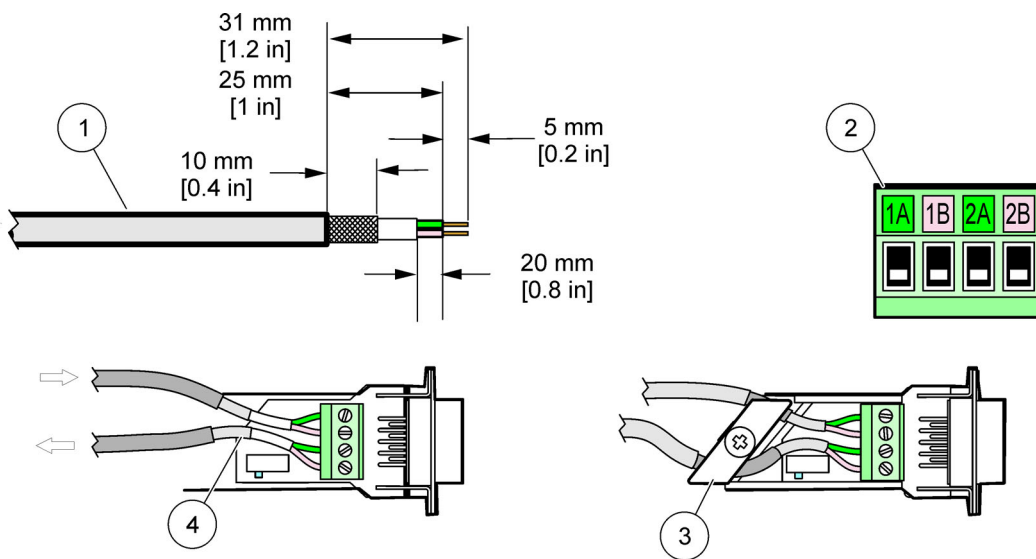

Figure 29 Removing the insulation from the communication cable
1. Strip the insulation from the communication cable (Figure 29).